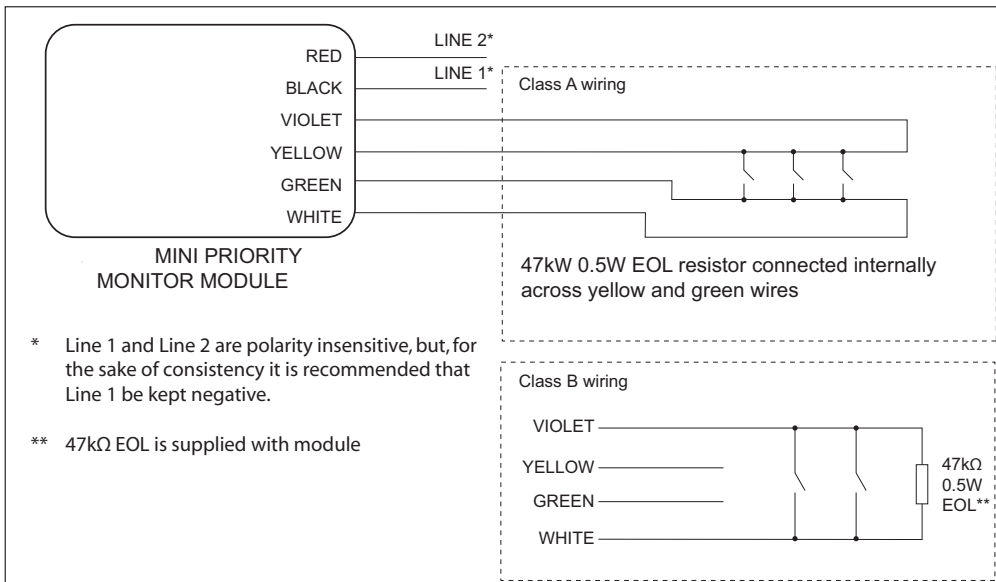

Fig 2. Wiring Diagram for Mini Priority Monitor Module
2. Connect the modules for Class A wiring or Class B wiring (Fig 2). Bit 8 of the DIL switch is used to select the class of wiring. All wiring must conform to local codes and regulations.